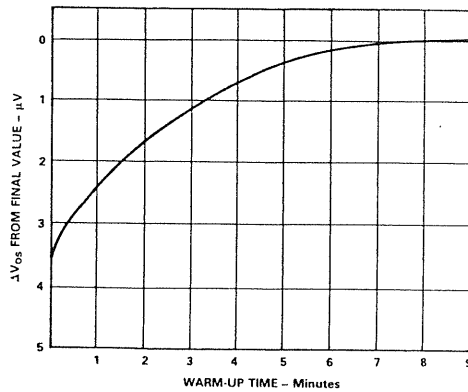

Figure 12. Offset Voltage, RTI, Turn-On Drift
**Turn On Drift:** The input offset of the 1B31 stabilizes to within 1  $\mu$ V of final value in 5 minutes (Figure 12). The test conditions are: 350  $\Omega$  bridge with +10V excitation and ambient temperature of +25°C.